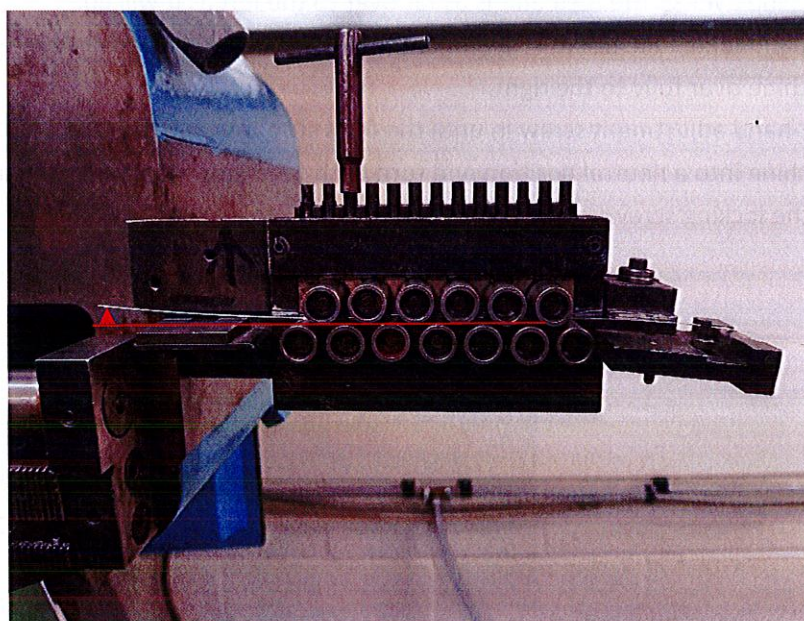

Figure 8: Example of how much the material should go up hill
- Use the straightening rollers to make the material straight, then make the material go up hill slightly as shown in figure 8. This helps with the production of the part. When the dimples are put into the strip it straightens the material again.